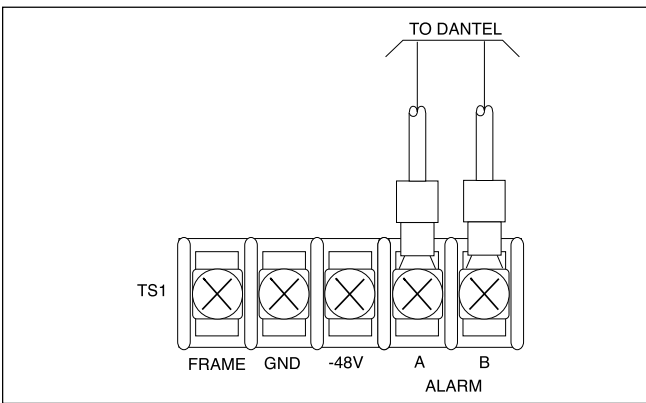

Figure 4. TS1 Alarm Connections
7. Connect power alarm contacts to TS1-A and B (see Figure 4).